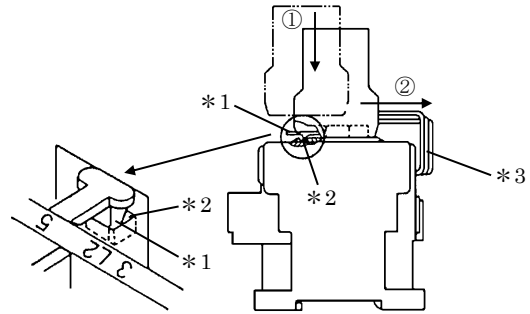

Fig. 1
3.1 Front-mounting Type (Fig. 1)